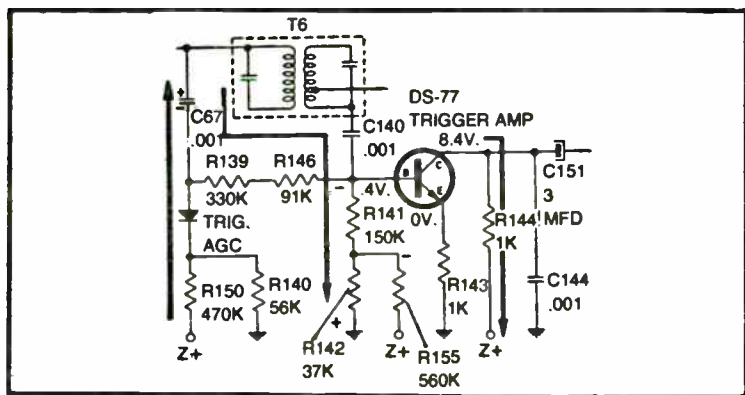
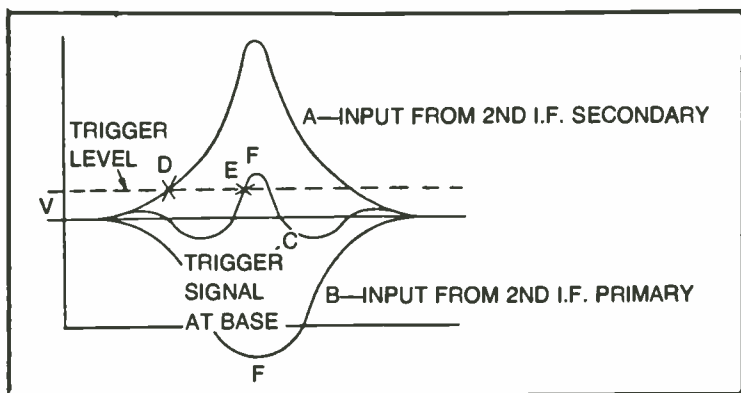

Fig. 22-4. Trigger amplifier on AM.
Fig. 22-5. Waveforms on AM.
Figure 22-4 shows the AM stopping circuitry, while Fig. 22-5 shows the different signals applied to this circuit. Two signals are needed in Fig. 22-4 to insure proper stopping. One signal is taken from the primary winding of the 262.5-kHz output i-f transformer, T6. This signal is sampled by capacitor C67. The second signal is taken from the secondary of T6 and is supplied directly to the base of the trigger amplifier through capacitor C140. Agc action, coupled with these two signals, stops the seeker accurately on the AM band. Notice that the bias on the trigger amplifier transistor is 0.4 volts. Because this transistor is a Delco DS-77 silicon type, it wants to see approximately 0.6 to 0.7 volts for proper forward bias. With 0.4 volts on the base-emitter junction, however, the transistor is *almost* forward biased (another 200 to 300 millivolts will turn on this transistor).
The signal levels from the two signal sources are shown in Fig. 22-5, with respect to the trigger level needed to fire the trigger amplifier transistor. The signals from the i-f transformer primary and secondary are algebraically added at the base of the trigger amplifier transistor to form a resultant curve (C). This resultant rises above the trigger threshold level just an instant before the tuner reaches the center of the passband. The transistor suddenly begins to conduct, and this causes a sudden decrease in the voltage